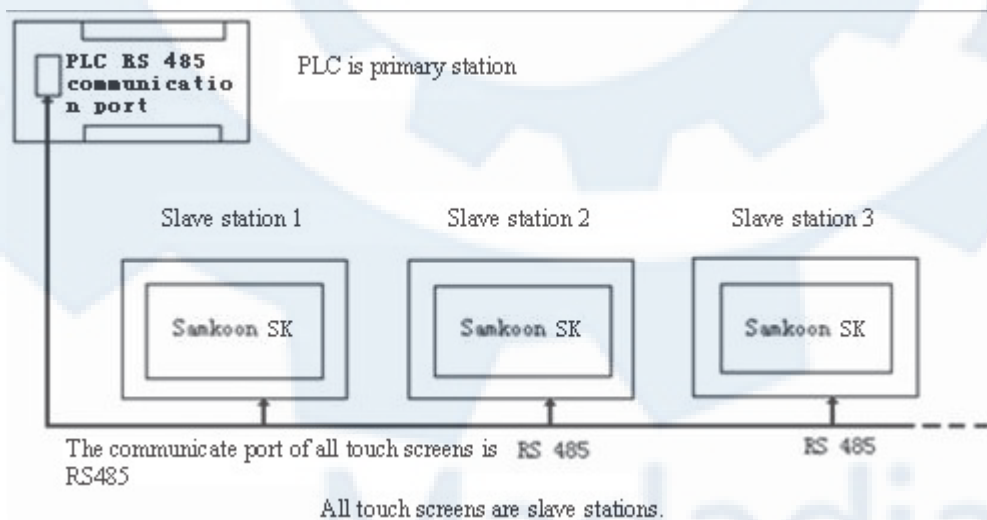

Figure 8-4 Schematic diagram of connection mode “One device with multiple screens” When PLC (RS485) is primary station
- The communication port connected with PLC is RS485 with connection mode as shown in figure 8-4.